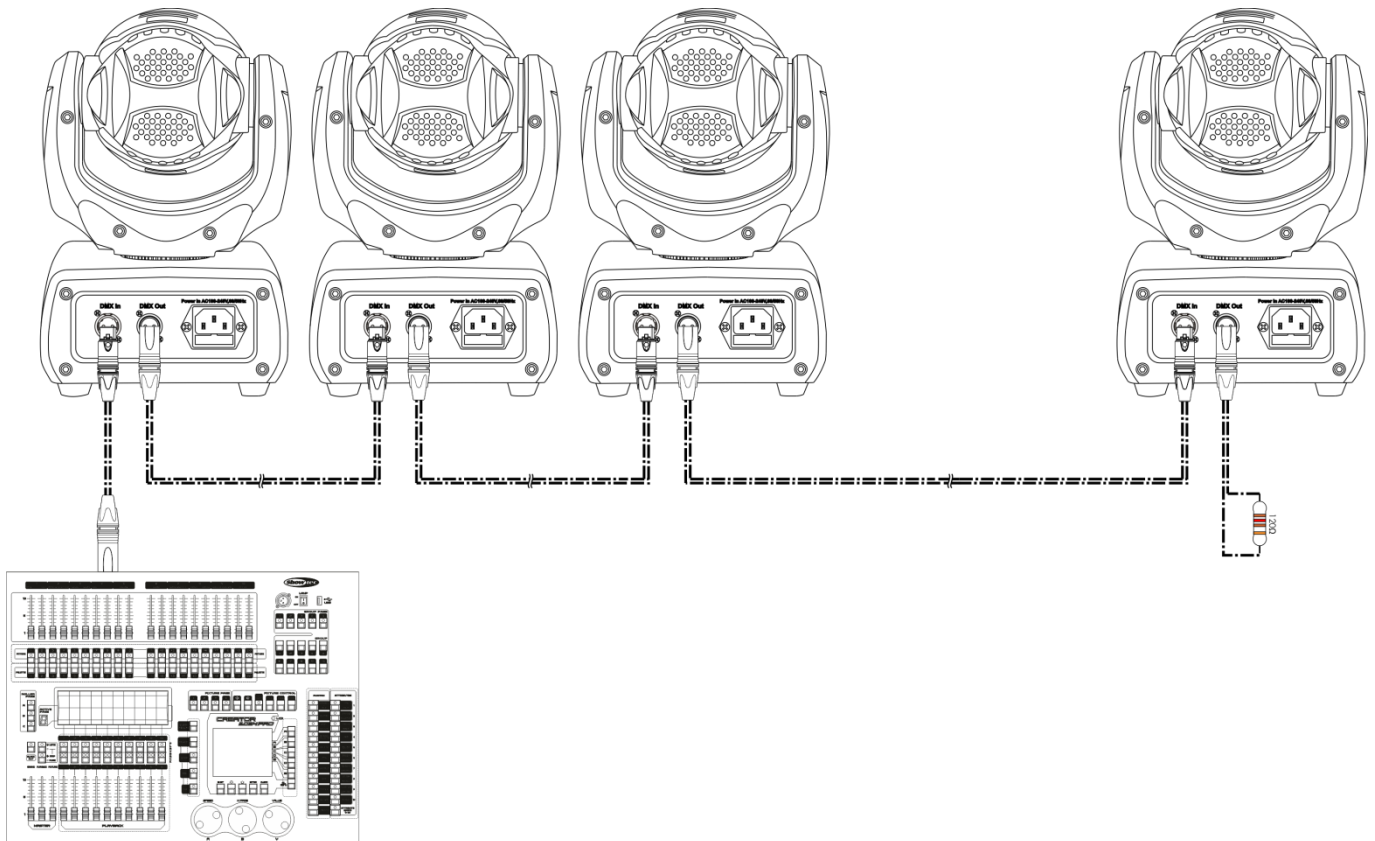

Fig. 04
- 05) Link the units as shown in (Fig.04), Connect a DMX signal cable from the first unit's DMX "out" socket to the second unit's "in" socket. Repeat this process to link the second, third, and fourth units.